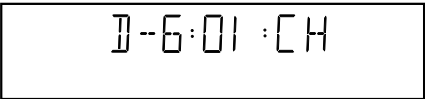

Figure 3
- a. Remove 2 screws (⑤) and then remove the Support/M in Fig. 3.
- b. Remove the Plate/Table in Fig. 3.
- c. Remove 1 screw (⑥) and then take off the Table in Fig. 3.
- 3) Install the Table by aligning it to the thick line on " / " mark. (Fig.3)